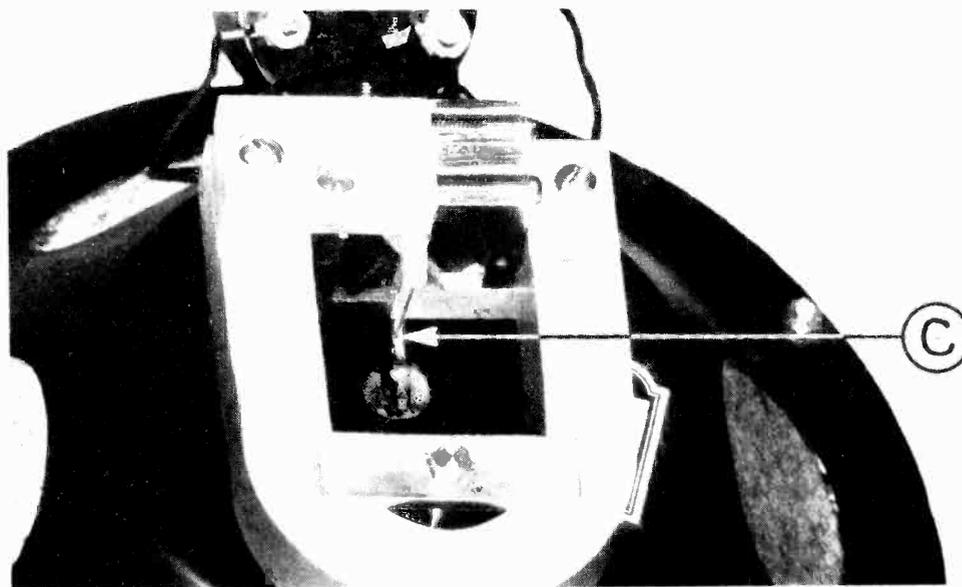

Figure 6—The drive-pin thrust-lever connecting point (C) which is soldered
that may have been on the armature is released and the spacer tools will provide the correct clearance or spacing. Now while the spacer tools are in place a hot soldering iron is applied to the drive pin thrust lever connection point C, Figure 6, and the solder heated sufficiently to allow the drive pin to find its normal position with regard to the thrust lever. The iron is now removed. Screws A and B, Figure 5, are tightened and the spacer tools removed. The armature is now correctly aligned and balanced so that no abnormal strain is being imposed upon it in any direction.
- (d) Remove the thrust lever supporting screw G, Figure 9, and apply a hot soldering iron to thrust lever armature drive pin connection point C, Figure 6. The thrust lever and driving rod may now be removed.